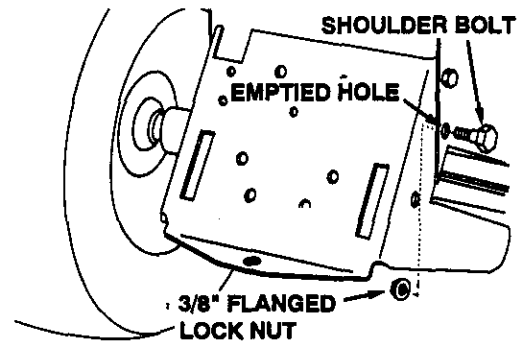

FIGURE 3
- Remove the bolt and nut from the hole on each side of the tractor frame as shown in figure 3.
- Assemble two shoulder bolts and 3/8" flanged lock nuts to the now empty holes. **Tighten.** See figure 3.